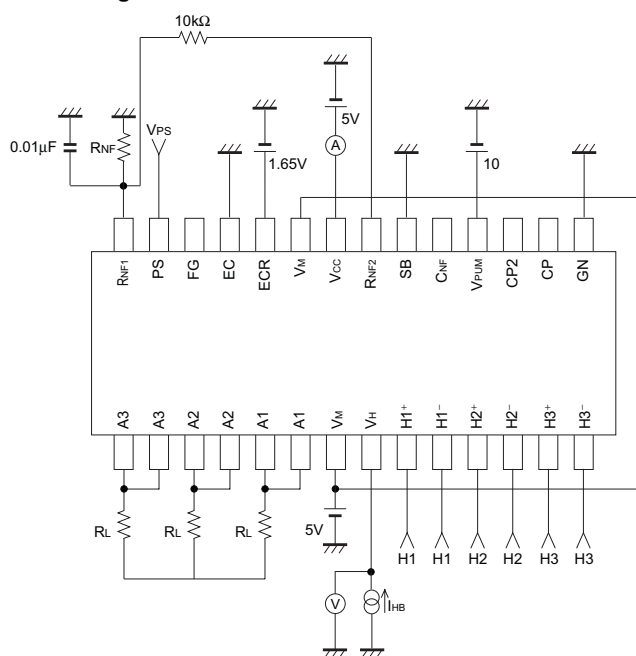

Fig.2
1. Value of resistor (Fig.2–Fig.9)